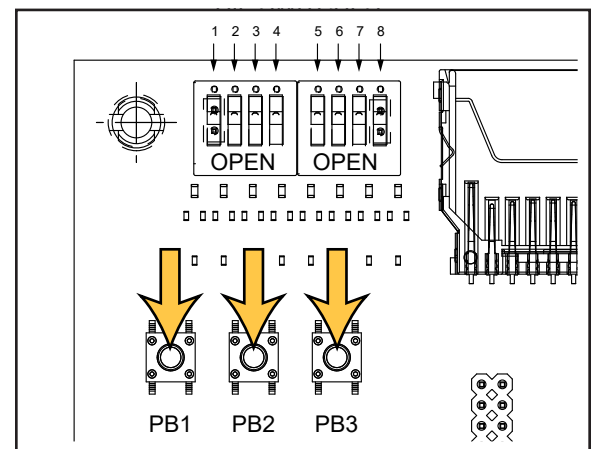

Fig. 69 - Circuit Board Push Buttons
1. Hold down simultaneously push buttons 1 and 2 for 3 seconds to enter temperature set point mode and display temperature set screen (see Fig. 69).